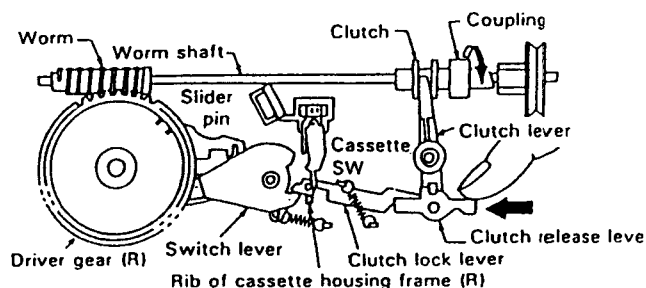

Figure 1-16.
1. Shift the slider by turning the coupling in the arrow direction (clockwise) until the slider pin is at the bottom of the slider groove as shown in the Figure 1-16. (The loading mode)
2. When the position is set as shown in the Figure 1-16, push the clutch release lever in the direction of the arrow by hand until the clutch lock lever becomes tightly locked by the rib of cassette housing frame (R).